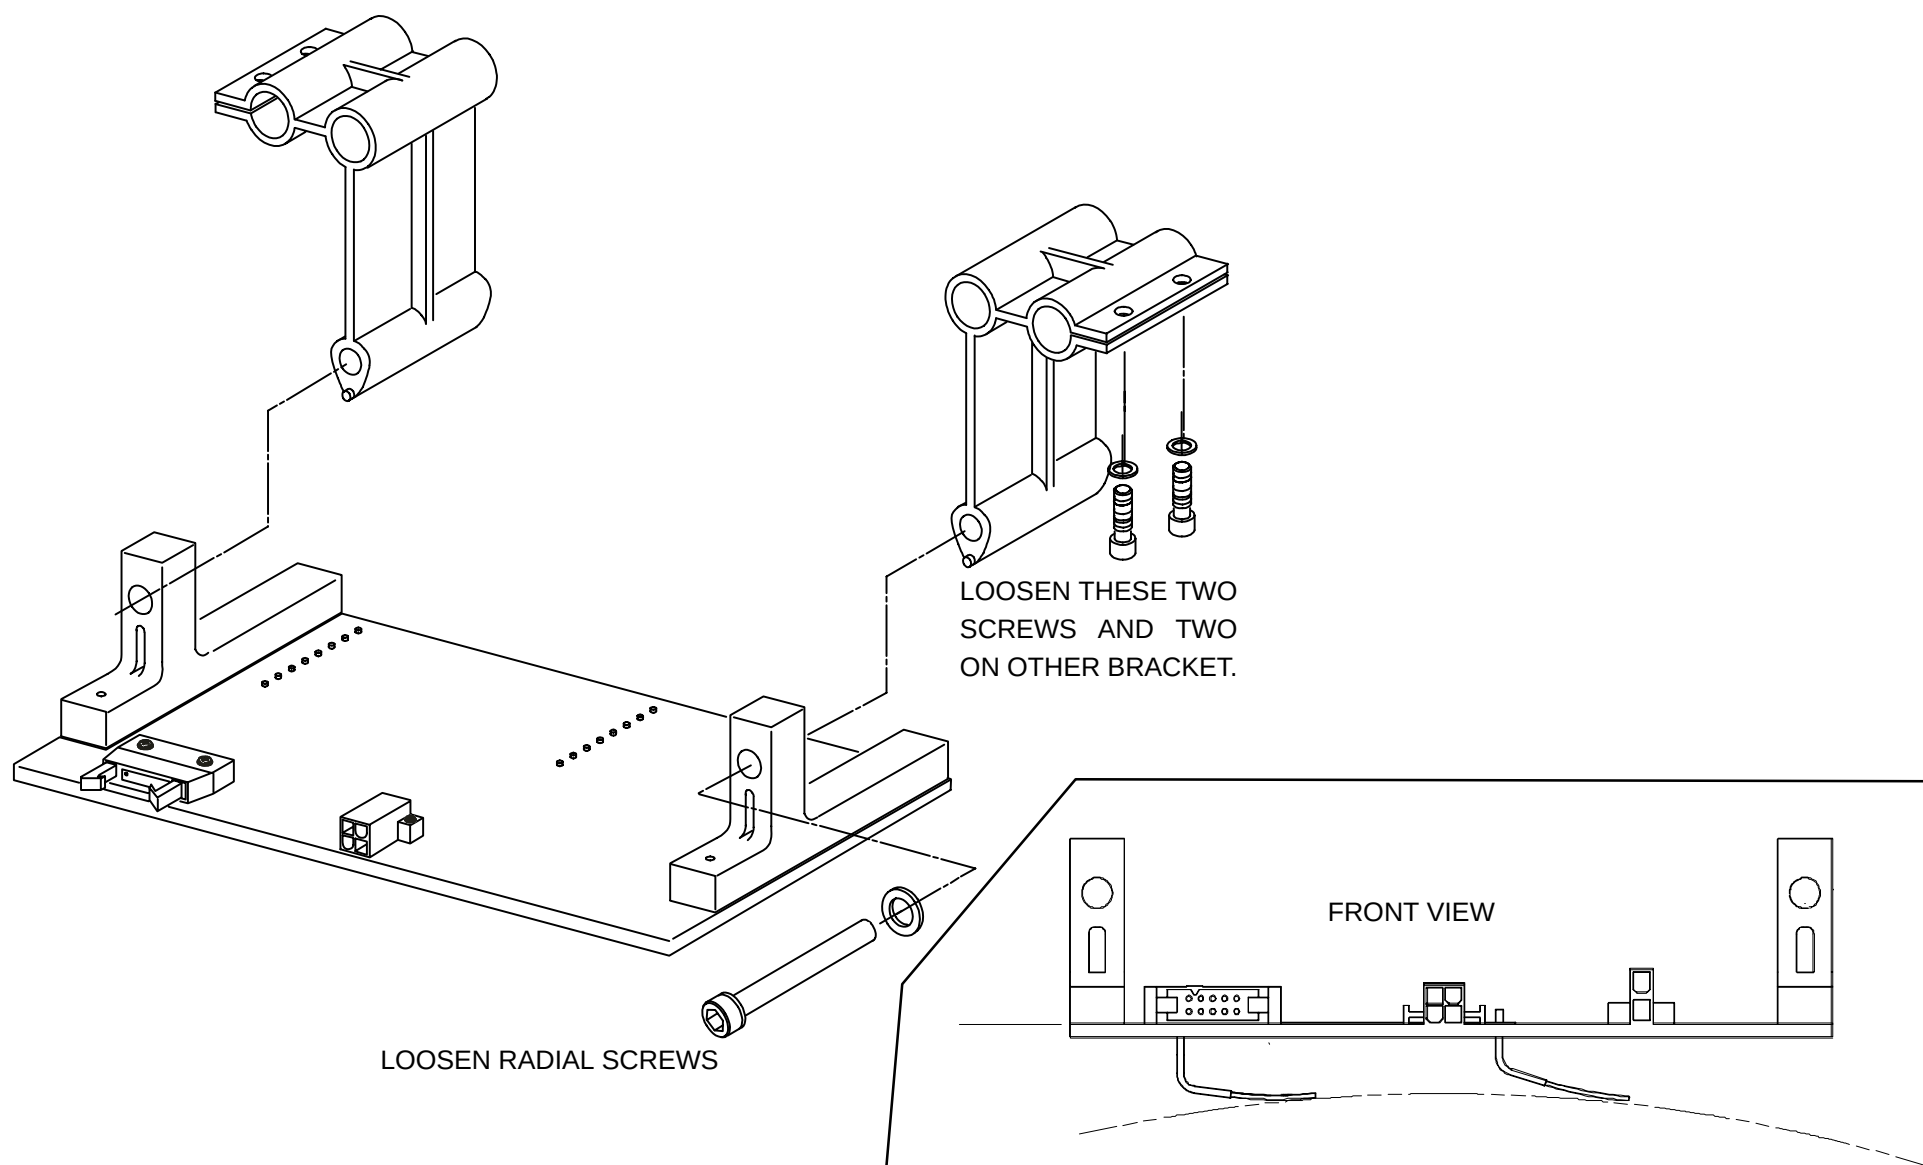
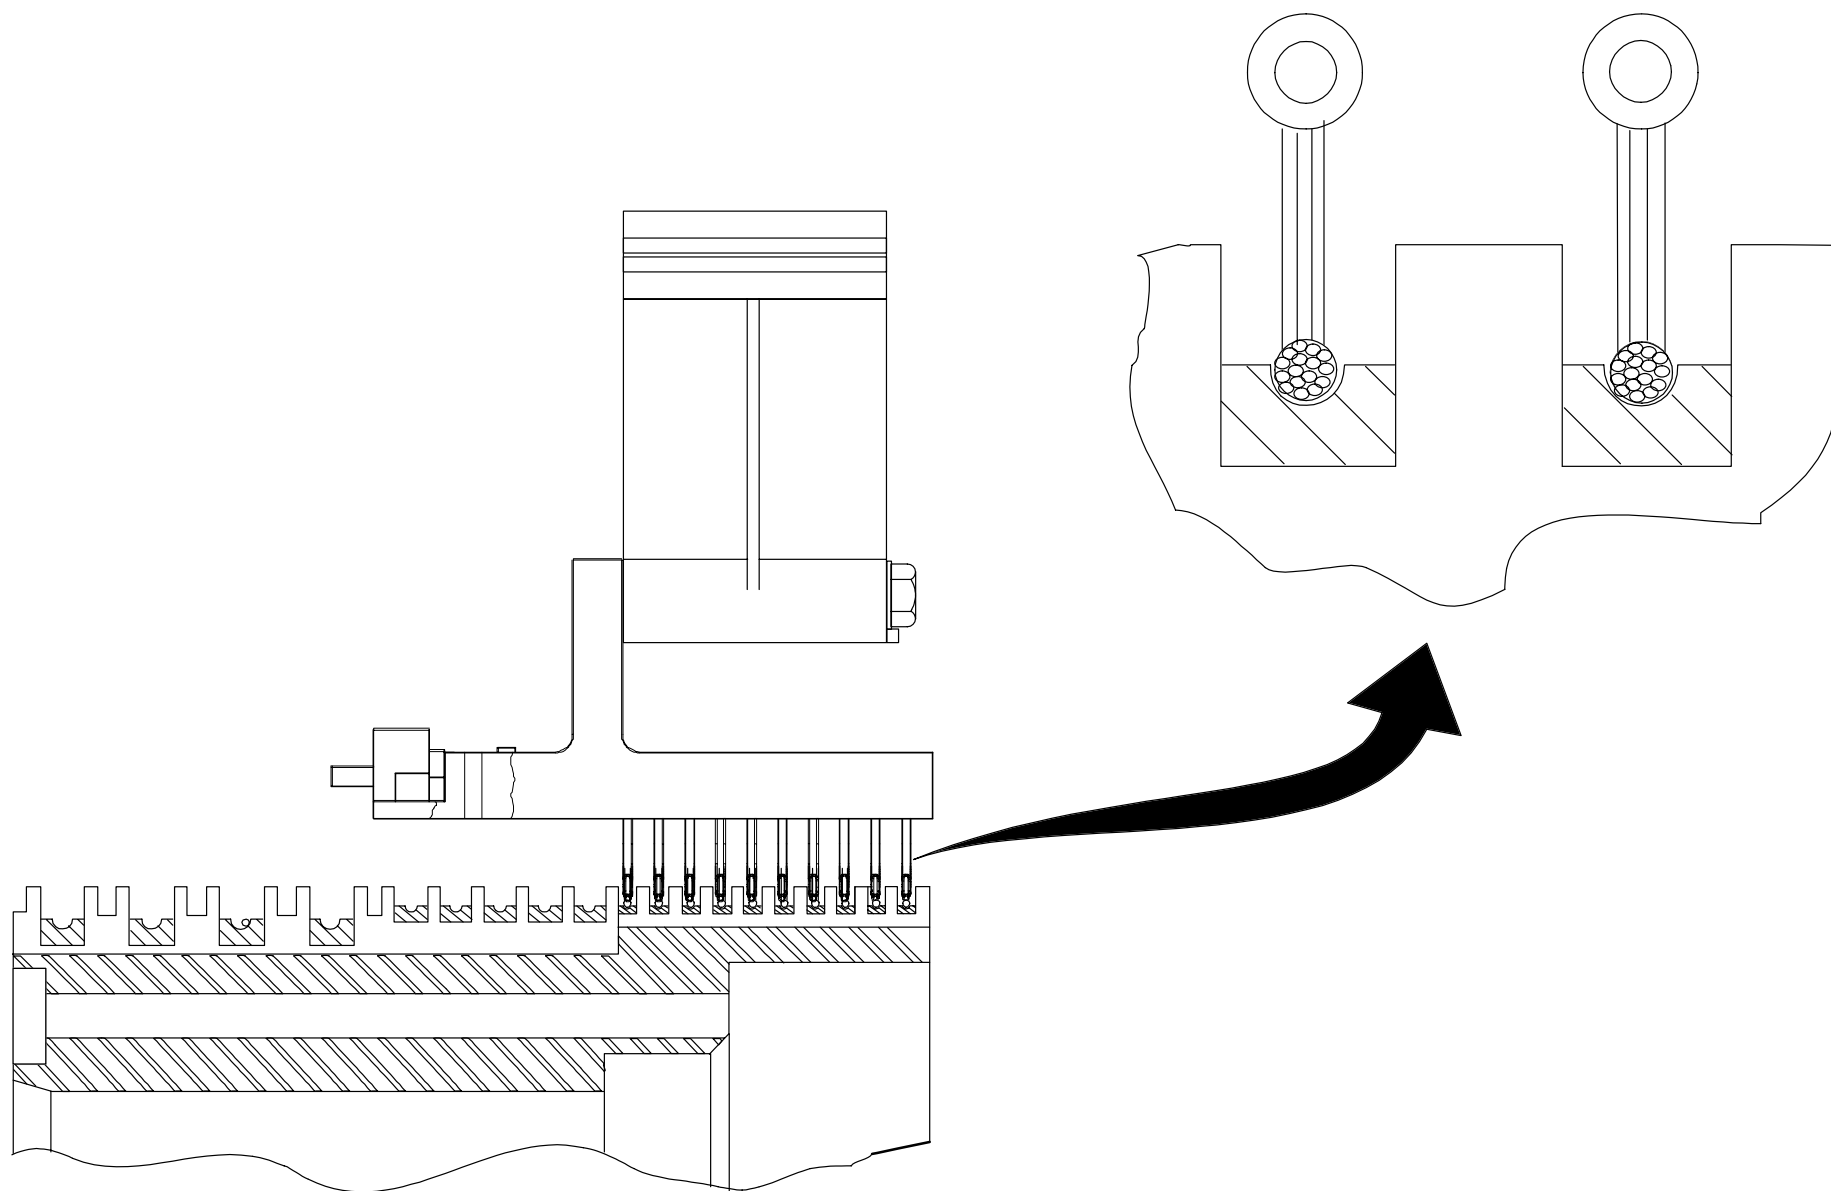

FIGURE 95 SIGNAL BRUSH BLOCK
FIGURE 96 ALIGNMENT OF ASSEMBLY AND SIGNAL BRUSHES
Refer to Figure 95 and Figure 96.
1. Loosen the two **radial** mounting screws. Loosen the four screws that secure the mounting bracket to the underside of the shelf. Refer to Figure 95.
2. Move the brush block assembly so that the brushes are centered in the groove, as shown in Figure 96. Slowly tighten the four screws that secure the mounting bracket to the underside of the shelf. Monitor the position of the brushes as the screws are tightened to ensure they remain centered in the grooves.
5. Remove the two **radial** mounting screws (Figure 95) one at a time, apply a drop of Loc-Tite to the threads of each screw, reinstall, but do not tighten them.
6. Move the brush block assembly so that the alignment pins are centered in the groove, as shown in Figure 96. Slowly tighten the four screws that secure the mounting bracket to the underside of the shelf. Monitor the position of the alignment pins as the screws are tightened to ensure the brush tips remain centered in the slip ring grooves.